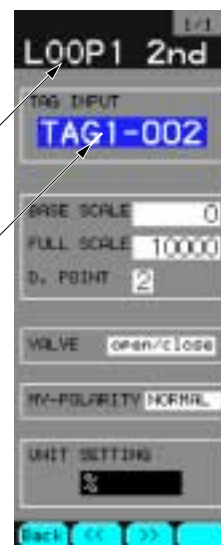

Fig. 4-37
① Press the “Chameleon change” key  to display “<<” and “>>”.
② Press “>>” once. “LOOP1 2nd” screen will appear (Fig. 4-37).
③ The setting method below is the same as “Primary display setting”.